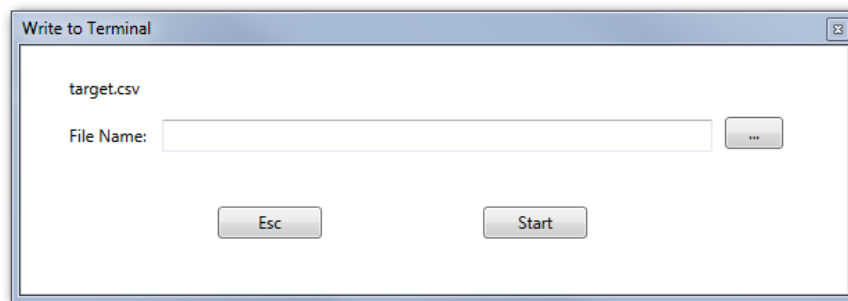

Figure 3-8: Write to terminal dialog
3. After selecting the Write to Terminal icon, as per Step 2, a new dialog (Figure 3-8) will prompt for the name of the file to be transferred. This is the name given to the file when it was saved on the PC.
4. In the **File Name** text entry area (Figure 3-8), enter the name of the file to be transferred from the PC to the terminal.